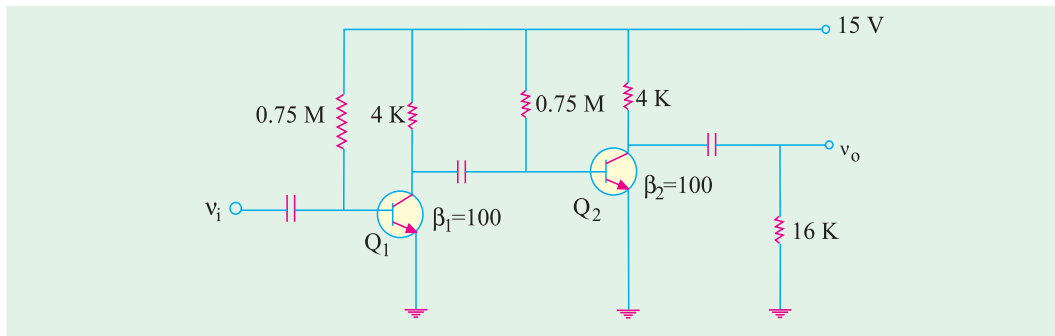

Fig. 61.43
1. For the two-stage R_C -coupled amplifier shown in Fig. 61.43 calculate the approximate values of